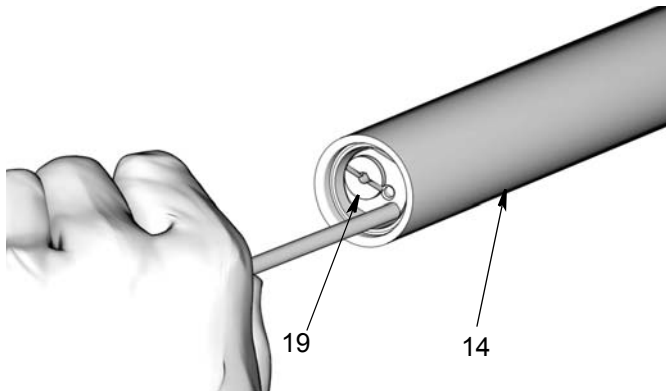

FIG. 27
23. Use a smooth, long brass or aluminum rod, free of sharp edges and burrs, to push the check valve assembly (19) out of the outlet tube (14) (FIG. 27).